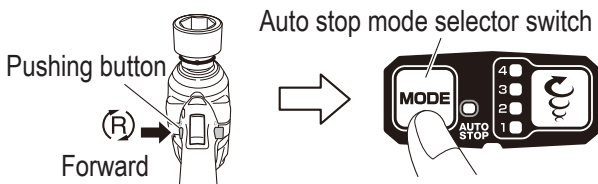

Fig. 22
- (3) Auto stop mode (**Fig. 22, Table 8**)